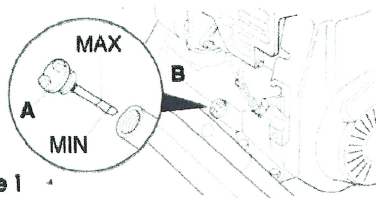

Figure 1
- 1) Unscrew the yellow oil fill plug/dipstick fig.1(A)
- 1) With the mower on level ground pour a good quality SAE 30 oil (ie SAE 30 API SF) into the filler tube fig.1(B), up to the 'max' dipstick mark (with dipstick screwed fully home). Depending on any residual of oil in the sump, up to 0.6 litres (1 pint) oil will be required to fill the engine.
- 2) Refit the yellow oil fill plug/dipstick fig.1(A)